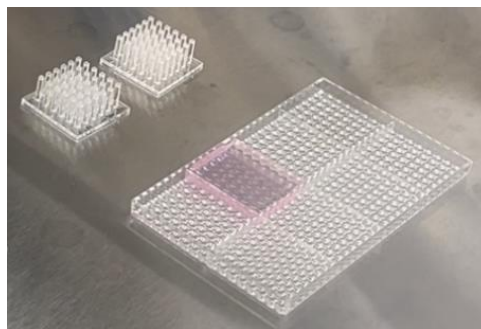

Figure 2. Dispensing 3 mL of the cell-alginate mixture per block in the LoadingPlate for rapid loading of the cells on the pillar plate.
- Place the LoadingPlate on a flat surface, dispense 2 - 3 mL of the cell-alginate mixture per small block, and spread it properly with the pipette tip (**Fig. 2**).